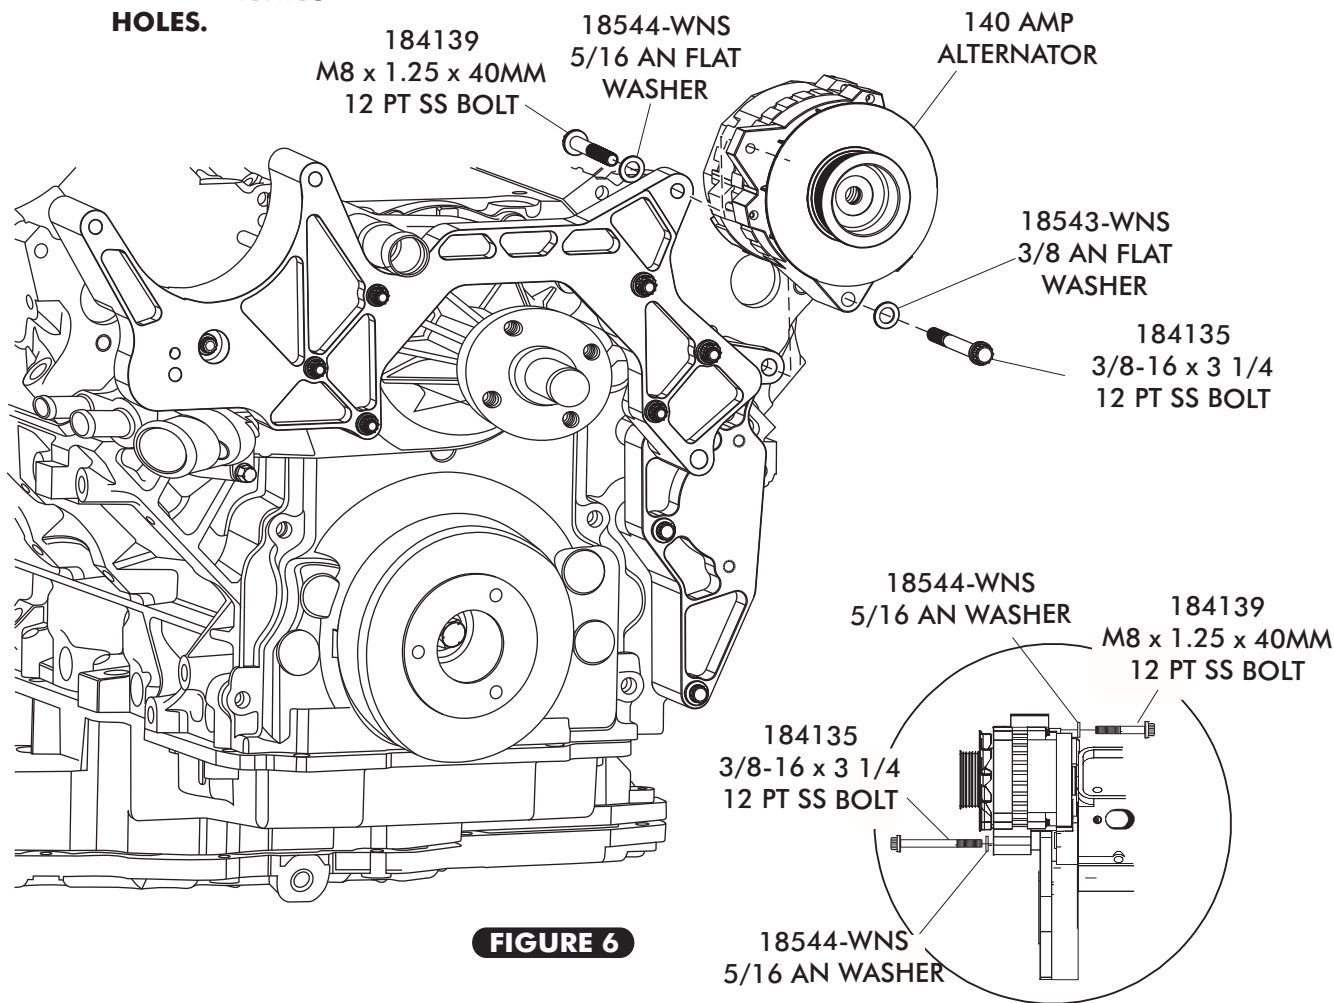

FIGURE 6
- INSTALL ALTERNATOR ONTO MAIN BRACKET USING 8mm-1.25 x 40mm 12 PT SS BOLT AND 5/16 AN FLAT WASHER FOR THE TOP MOUNT AND USE A 3/8-16 x 3 1/4 12 PT SS BOLT AND 3/8 AN FLAT WASHER FOR THE BOTTOM MOUNT AS SHOWN IN FIGURE 6 BELOW.